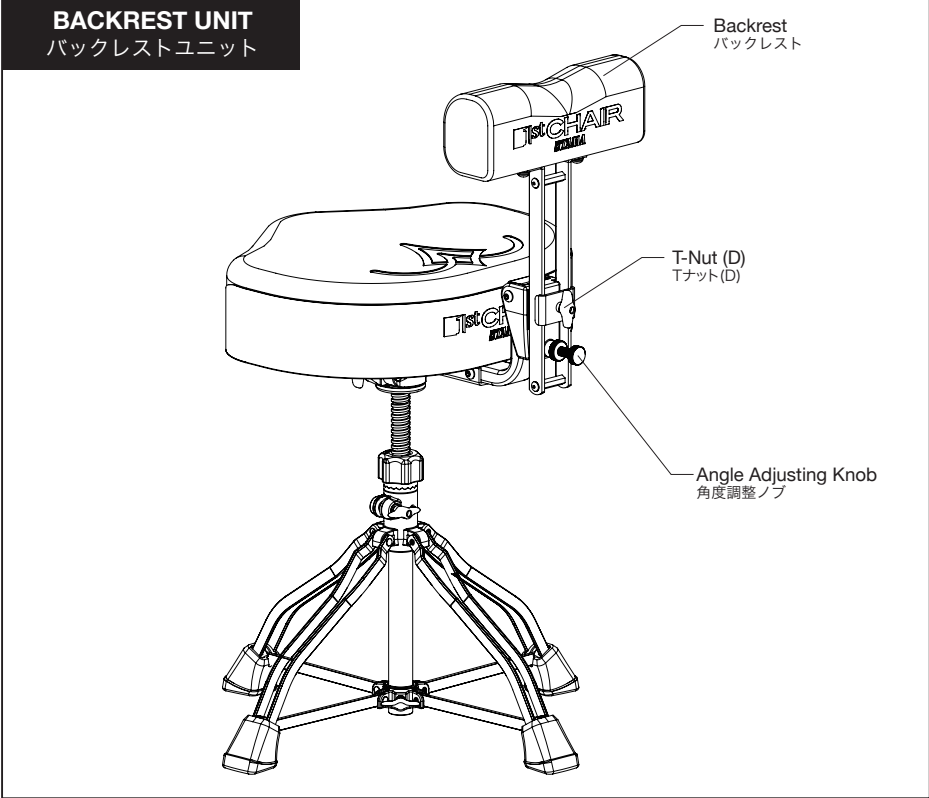

Fig.8 (図8)
Height Adjustment (Fig.8)
- To avoid tipping over backwards when using the Backrest, ensure one leg is facing in the direction of the backrest as shown in Fig.8. Do not lean on the Backrest any harder than necessary.
高さ調整方法 (図8)